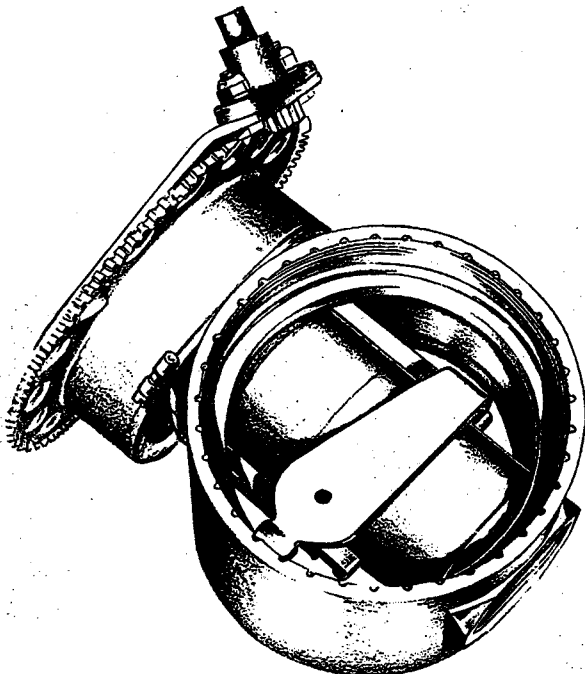

Figure 21
(1) Remove the pitch-control arms from the hub barrels. (See figure 21.)